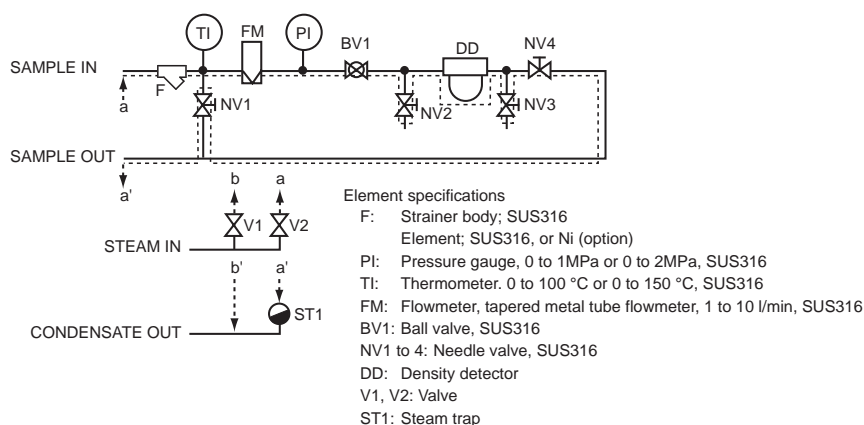

Figure 5.2 Flow Diagram
P.4-9 Figure 4.5 Flow Diagram added, P.5-1 Figure 5.2 Flow Diagram added,